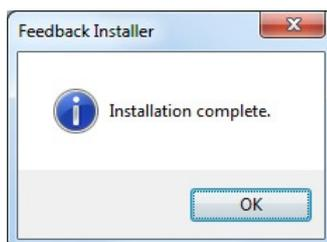

Figure 24 Installation Complete window
10. When install an 'Installation Complete' window will appear (Figure 24).